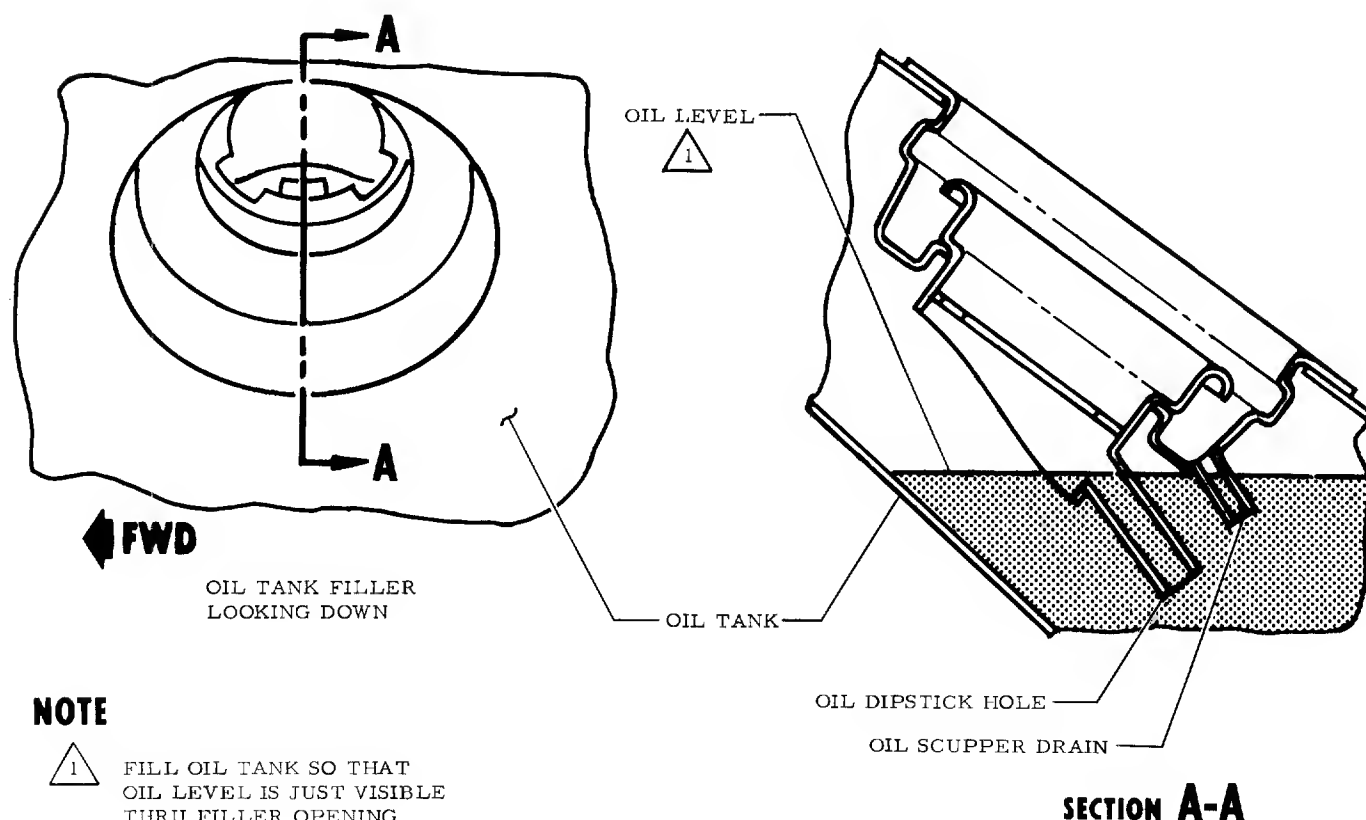

Figure 1-49. Servicing of Oil Tank
- a. Fill tank with oil to level indicated in figure 1-49. The oil level can be seen through the filler opening.